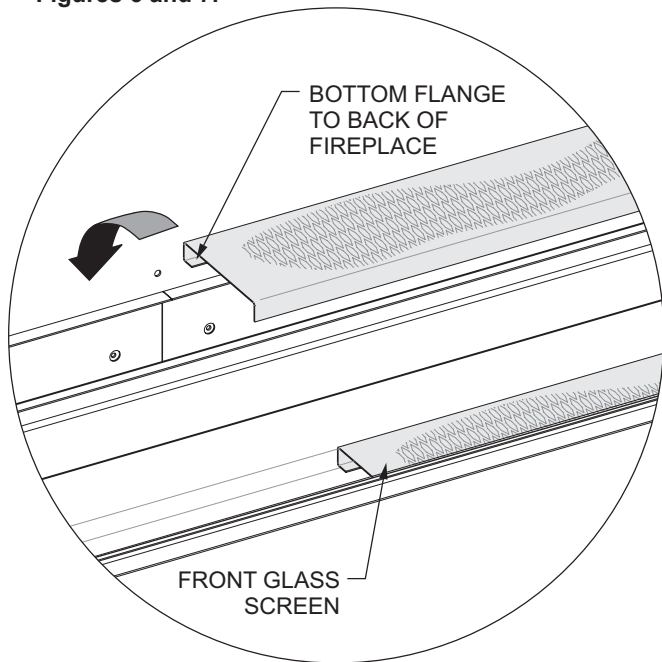

Figure 6
7. Place the glass support screens into the fireplace. See Figures 6 and 7.